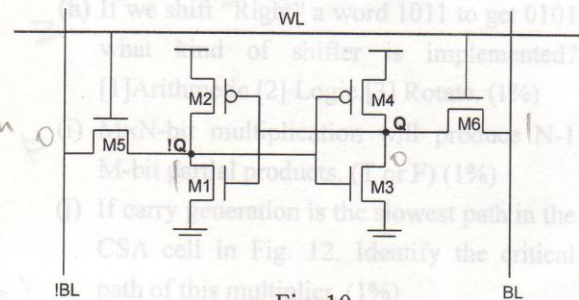

Fig. 10
9. Consider the 6T SRAM cell in Fig. 10. (5%)